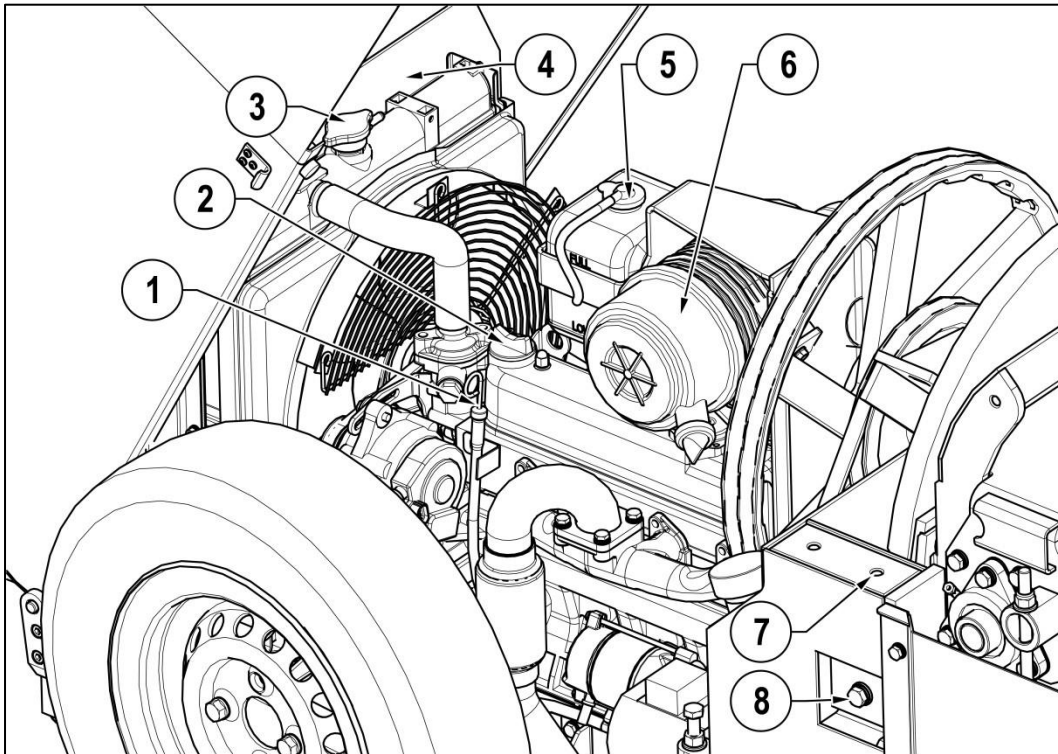

Figure 11
- Check engine oil. See Figure 11
- Check water level in radiator reservoir bottle. See Figure 11